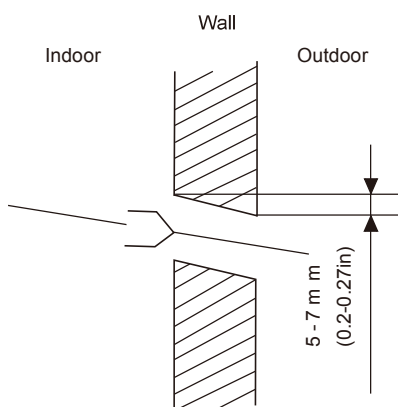

Fig. 4.3
2. Using a 65mm (2.5in) or 90mm(3.54in) (depending on models)core drill, drill a hole in the wall. Make sure that the hole is drilled at a slight downward angle, so that the outdoor end of the hole is lower than the indoor end by about 5mm to 7mm (0.2-0.27in). This will ensure proper water drainage. (See Fig. 4.3)